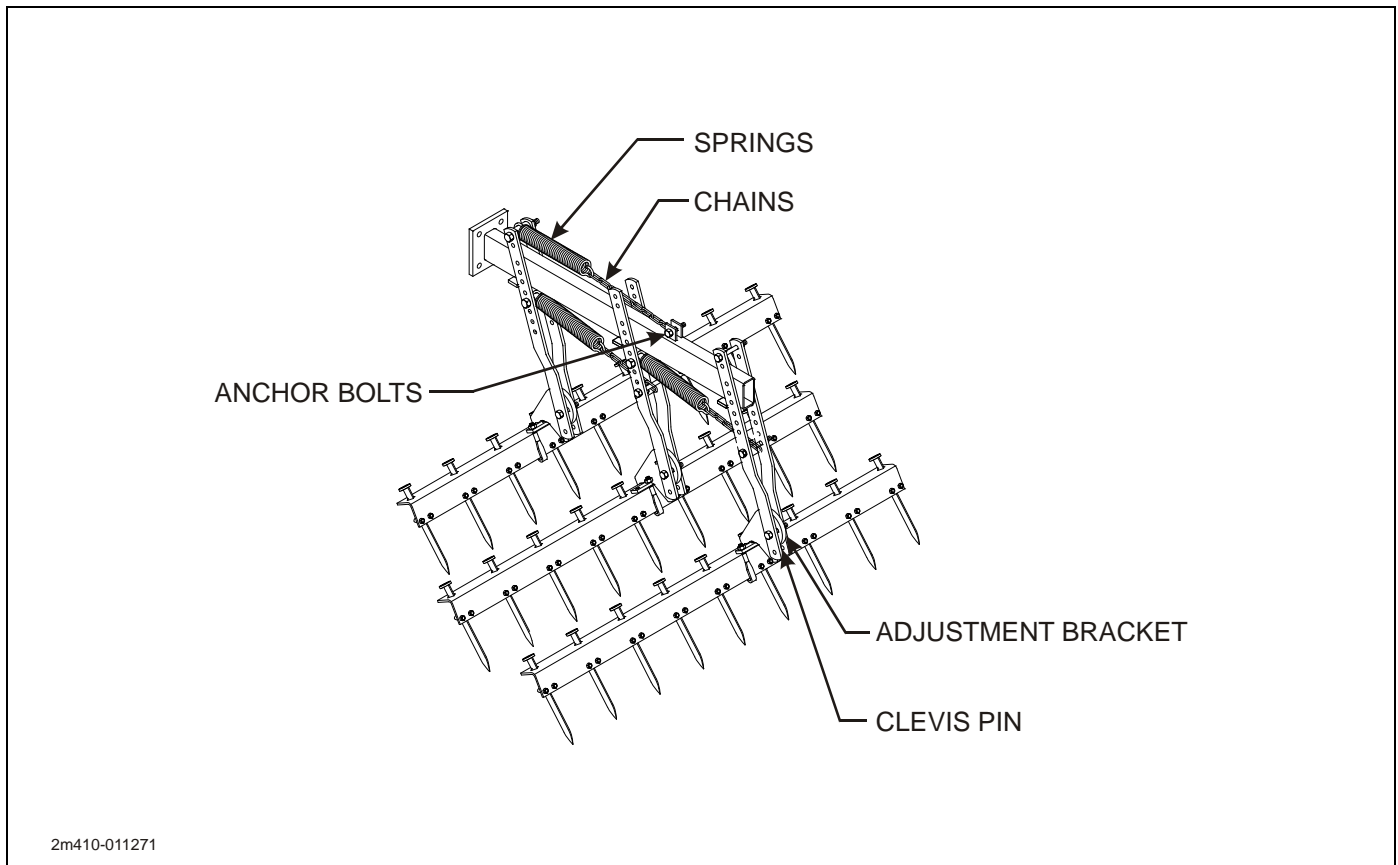

Figure 4-5: Harrow Adjustment
1. The harrow on the rear of the machine can be set for a variety of field conditions (**See Figure 4-5.**) The harrow that is set up according to the assembly instructions for a working depth of 3 - 5 inches.